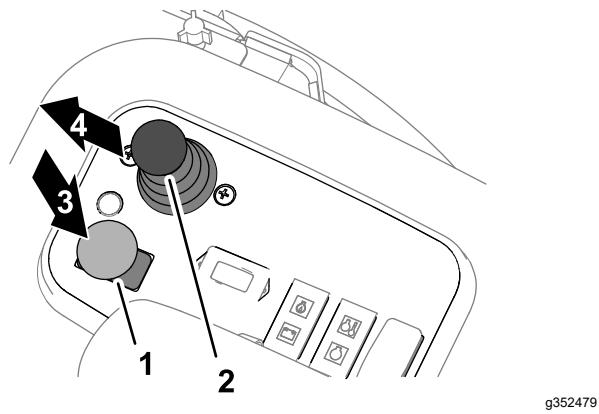

Figure 35
- Move the cutting unit drive switch to DISENGAGE (Figure 35).
- Use the lower mow/raise control lever to lower the cutting units (Figure 35).